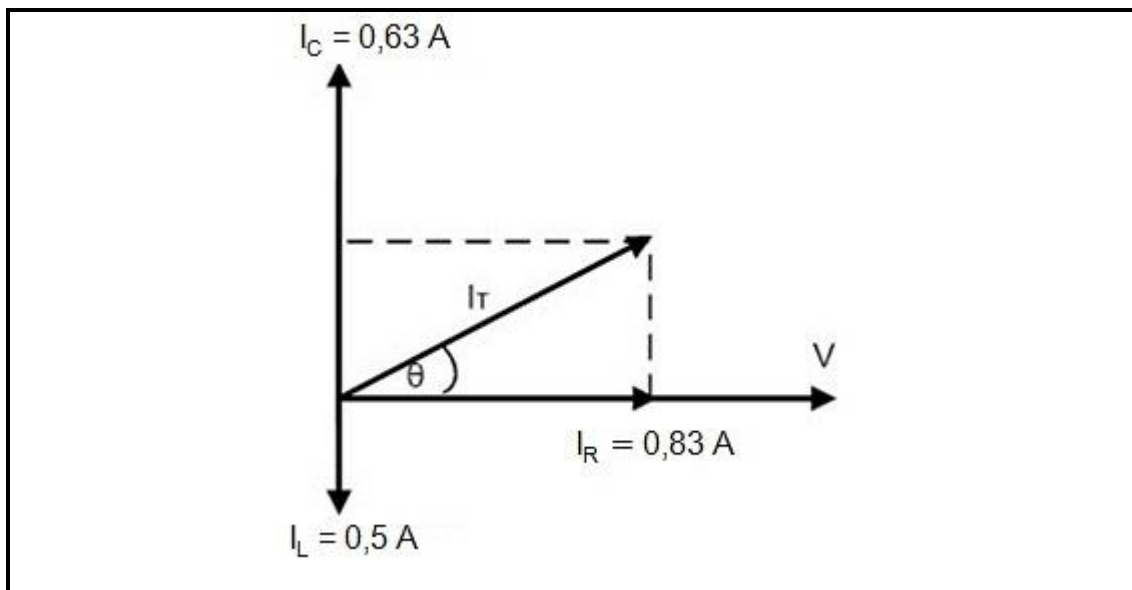

FIGURE 3.5: PARALLEL RLC PHASOR DIAGRAM
3.5 Refer to FIGURE 3.5 below and answer the questions that follow.